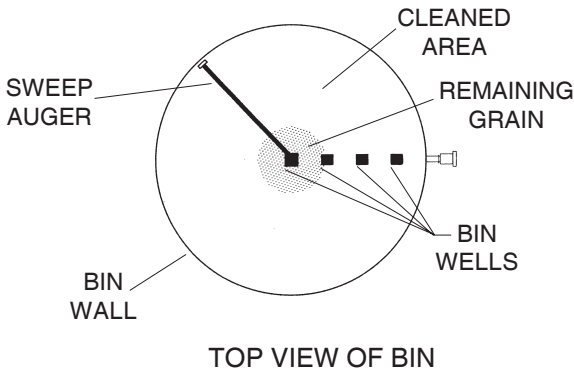

FIG. 9
5. Scoop and sweep by hand the remaining floor area to the center of the bin. See Figure 9.